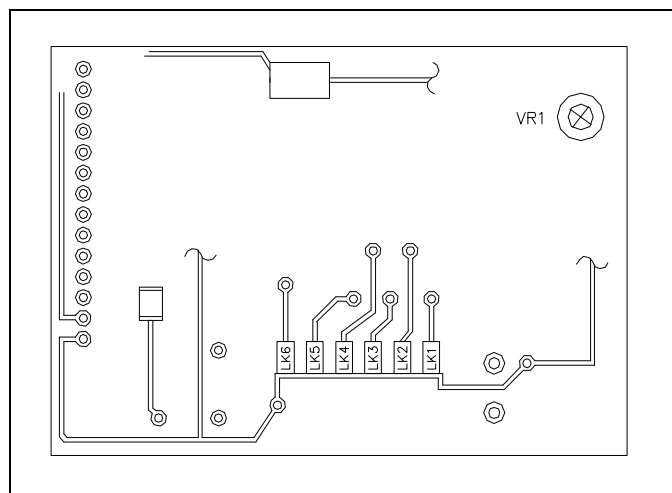

Figure 1. CTCSS Option Board (bottom view)
2. Refer to Figure 1 for the jumper locations. Using a fine-tipped soldering iron and tweezers, carefully remove the resistive jumpers necessary to conform to the chart on page 2 for the desired frequency. Make certain no solder bridges remain and clean off excess resin.